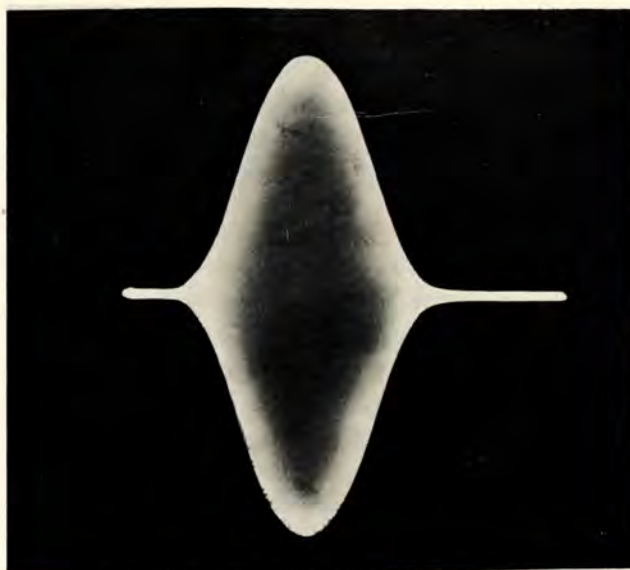
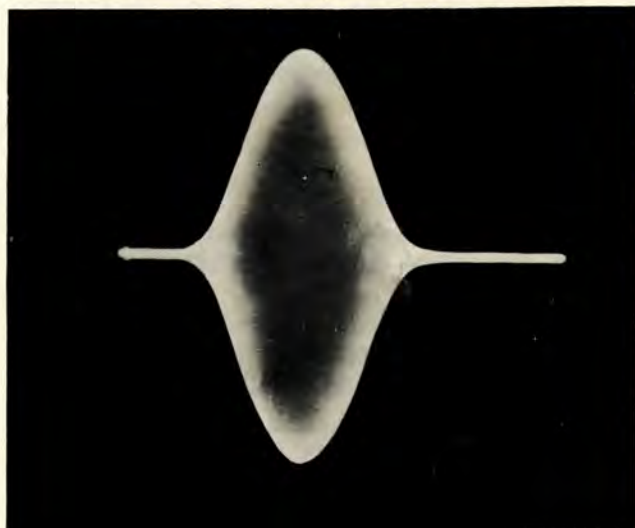
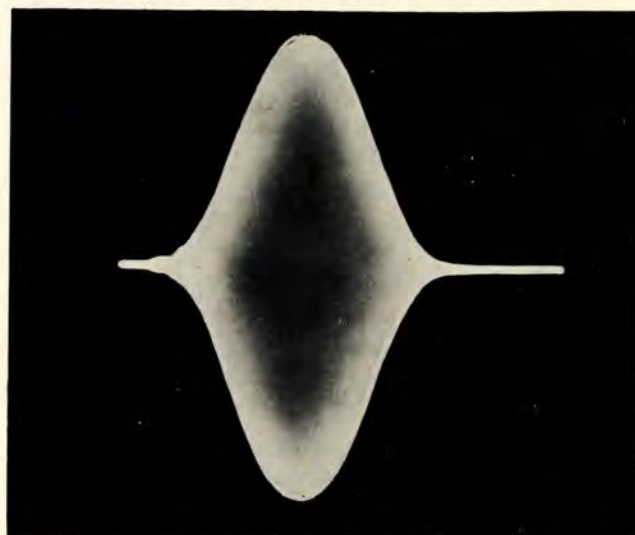

Figure 3-18. PA Output Pulse, Correct Bias
Figure 3-19. PA Output Pulse, Excessive Bias
Figure 3-20. PA Output Pulse, Insufficient Bias
(2) Retune the 2nd IPA PLATE TUNING control (C) slowly, noting that the width of the pulse varies at the base, that is, the hypothetical line dividing the symmetrical upper and lower halves of the oscillogram. Find the setting giving the *maximum* width at the base and lock the control.
(3) Retune the PA PLATE TUNING control (D) slowly for *maximum amplitude* of the pulse at the peak and then lock the control.
(4) Retune the OUTPUT TUNING control (F) for a *maximum reading* on the TRANSMISSION LINE current meter (M111) and then lock the control. Note that this tuning must be done slowly, as the meter movement is highly damped.
(5) Steps (2), (3), and (4) above complete the tuning procedure. In general, these controls should not be touched from this point on. If for any reason it is later deemed necessary to check their settings, carefully repeat the tuning procedures as indicated. Variance from these instructions may lead to difficulty in maintaining the transmitted pulse shape constant within close limits.
n. FINAL PA BIAS ADJUSTMENT. — Check the waveform observed on the scope for the OUTPUT PA position of the MONITORING CIRCUIT switch against the oscillogram shown in figure 3-18. Note in figure 3-19 how excessive bias narrows the output pulse, and in figure 3-20 how insufficient bias distorts the beginning of the pulse by letting it start abruptly. Vary the PA BIAS control (R165) and compare the resultant waveforms with the oscillograms. Finally, starting from the point of maximum bias, turn